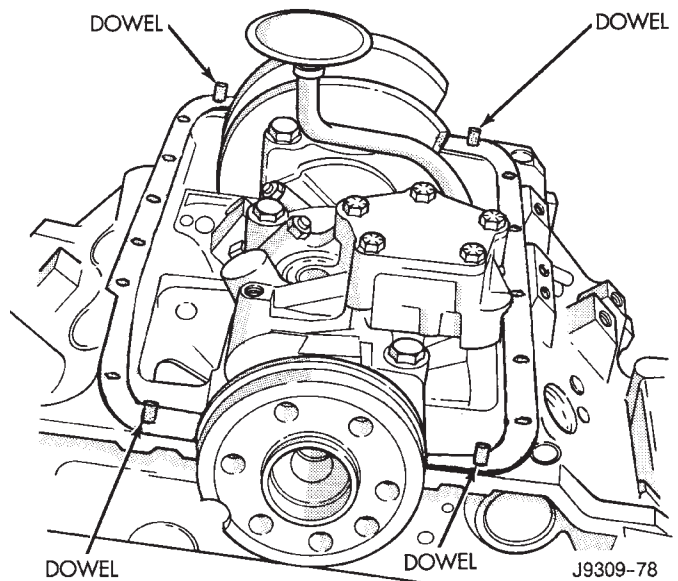

Fig. 39 Position of Dowels in Cylinder Block
- (2) Install the dowels in the cylinder block (Fig. 39).